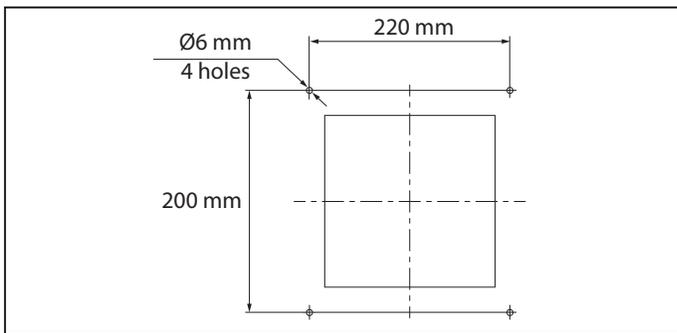

Fig. 7a.
- Fig. 7a for VENTO Solar V60 Pro / Pro2;